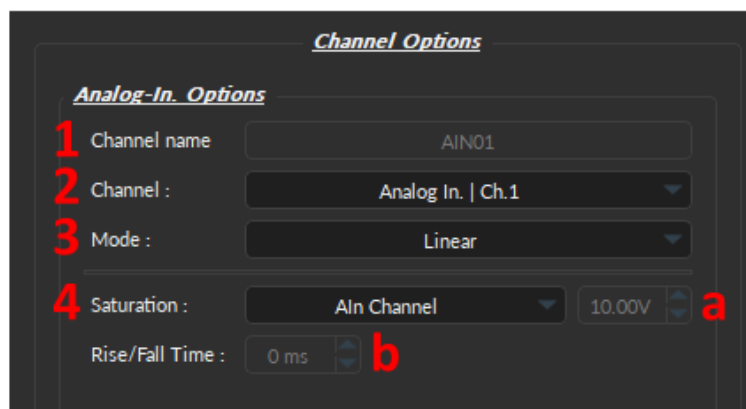
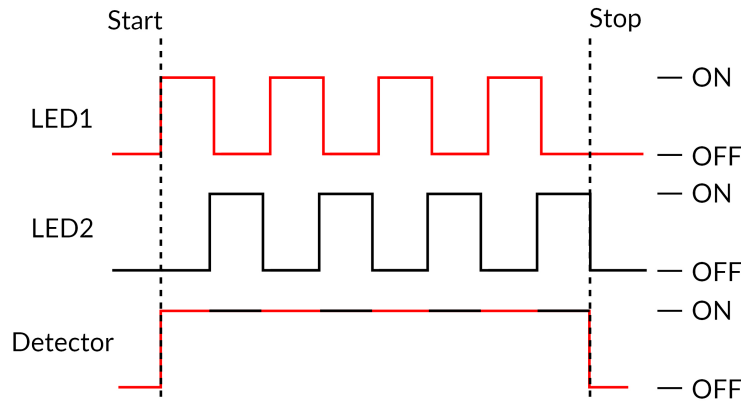
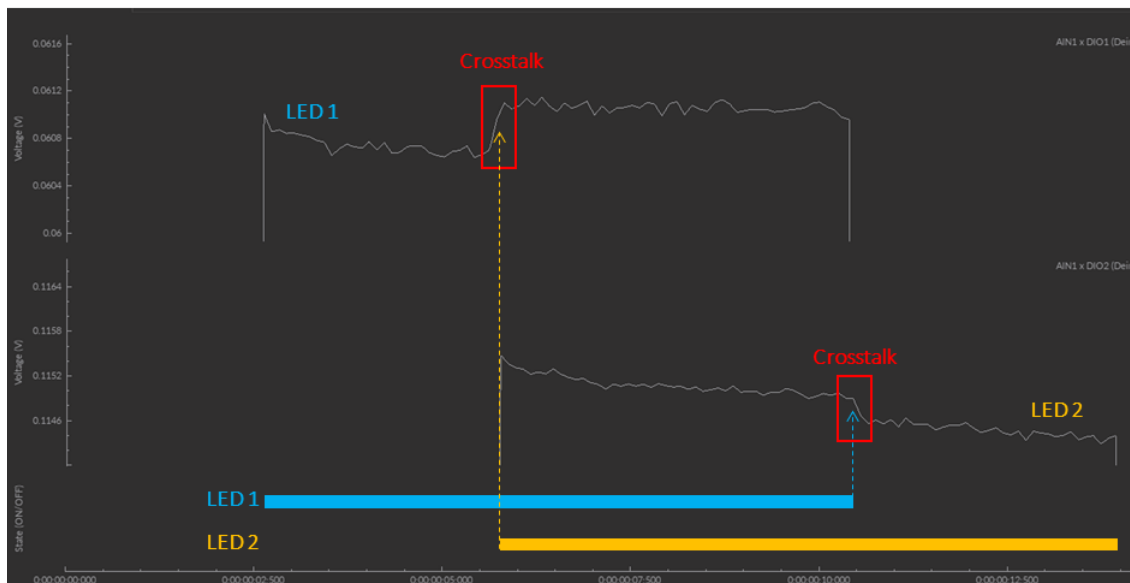

Figure 8.33: Channel(s) configuration window, Analog Input - Channel Options
Figure 8.35: Interleaved Acquisition Timing Diagram
Figure 8.36: Interleaved Cross-talk
The **Channel Options** (Fig. 8.33) defines the channel, source and mode of the digital signal, as following:
1. The **Channel name** (Fig 8.33, 1) allows user to specify a label for each channel.
2. The **Channel** (Fig 8.33, 2) identifies which of the channels available for each channel type is currently being modified. The channel can be changed by selecting a new one from the drop-down list. Each numbered channel on the physical console corresponds to the same number of the digital channel within the software.
4. The **Saturation** (Fig. 8.33, 4) automatically sets the following parameters and depends on the detector acquiring the data (Detectors: *Doric detector*, *Newport Detector*, *Hamamatsu C10709*, and *Aln Channel*):
- a) The **Maximum Voltage** (Fig. 8.33, 4a)
- b) The **Rise/Fall Time** (Fig. 8.33, 4b)
The **Interleaved** channel mode allows two channels to send an alternating pulsed signal of opposite phase for two separate light sources. Each source can excite a different fluorophore, which allows the detection of two separate fluorescence signals coming from the same sample using a single channel (Fig. 8.35).
The interleave preset is using 50% duty cycle for each LED, without delay between them (Fig. 8.35). Thus, depending on the Rise/Fall time of the detector in use (Fig. 8.33, 4b, Detector Rise/Fall Time), there will be more or less crosstalk between the interleaved channels (Fig. 8.36).
Specifically, when one of the digital channels is ON, it will pick up when the other is turned ON or OFF (Fig. 8.36). Figure 8.36 shows how the Digital Output channel of LED 1 has a small increase in voltage when LED 2 is turned ON. And, conversely, there is a small dip in voltage in the LED 2 channel when LED 1 is turned OFF (Fig. 8.36).
that left most column = AOUT1). Users should enable the output(s) channels that will be driving the input specified in Fig. 8.33, 2.
- The **AIN #** corresponds to the console Analog In port number that receives the raw (non-demodulated) signal from the detector. To change the **AIN #**, select a different **Channel** number from the **Analog In Options** box (Fig. 8.33).